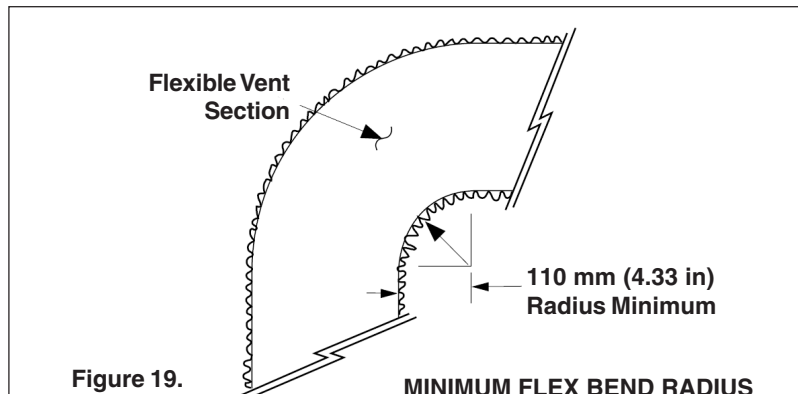

Figure 19.
** Radius minimum to be 110 mm (4.33 in) as shown in Figure 19.